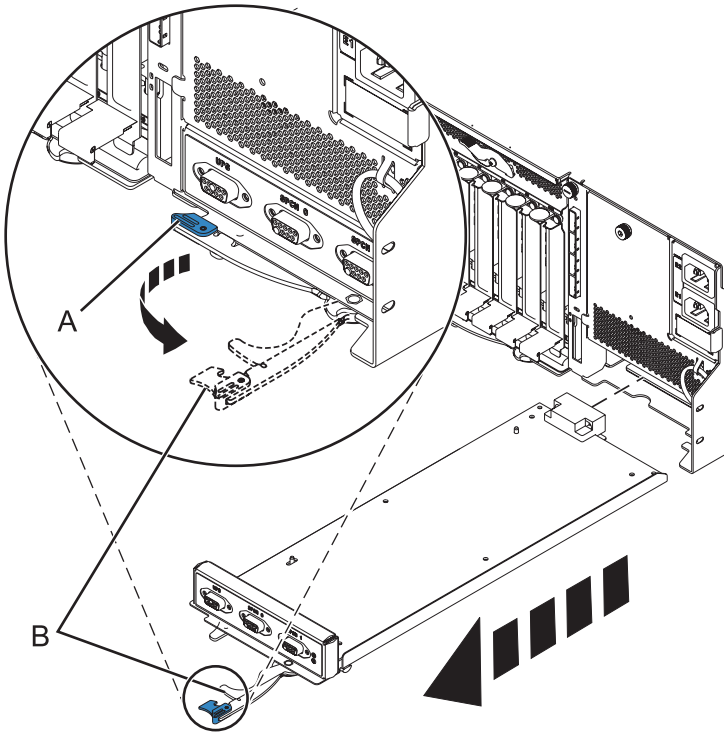

Figure 67. Remove the enclosure management controller
- b. Pinch the latch (A) to unlock the handle (B). See Figure 67 on page 86.